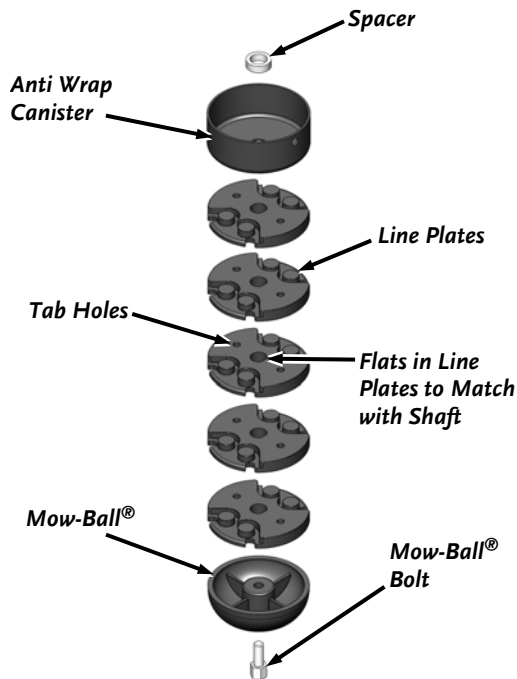

Figure 22
5. Slide the Line Plates, Anti Wrap Canister and Spacer off the Shaft (**Figure 22**).
Improper installation can cause damage to the trimmer bearings. Follow these directions carefully to protect your machine from damage. Reassemble the components in the order shown in **figure 22**.
1. Place the Spacer and Anti Wrap Canister (with the lip facing up) onto the Shaft (**Figure 22**).